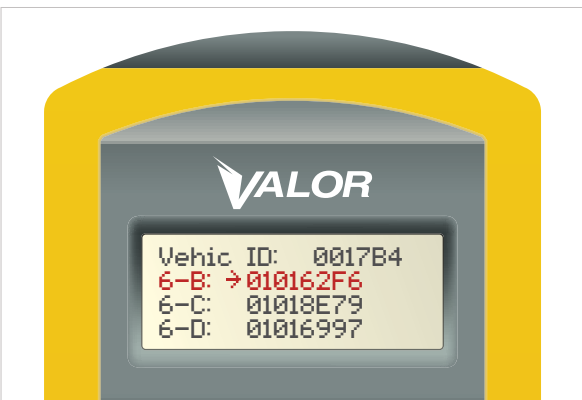

Figure 23
4. The SmarTool will display the sensor ID (tires) by position assigned during programming. (Figure 23)